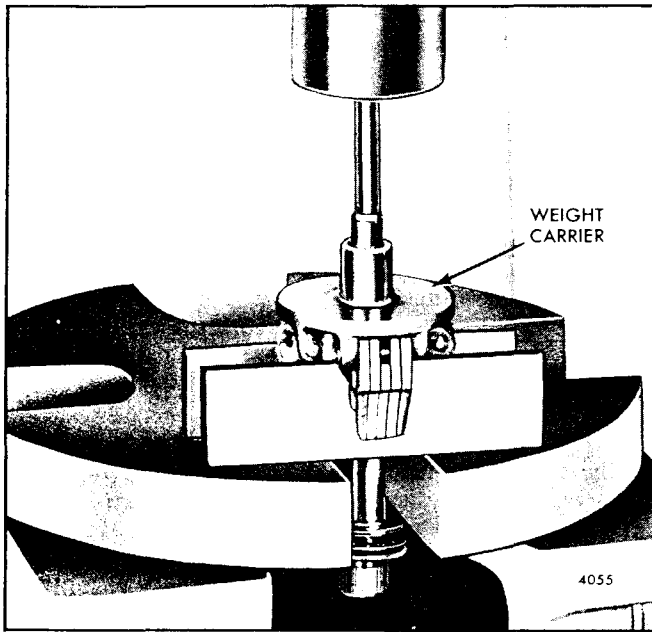

Fig. 11 - Removing Shaft from Weight Carrier
2. Press the shaft from the governor weight carrier (Fig. 11).